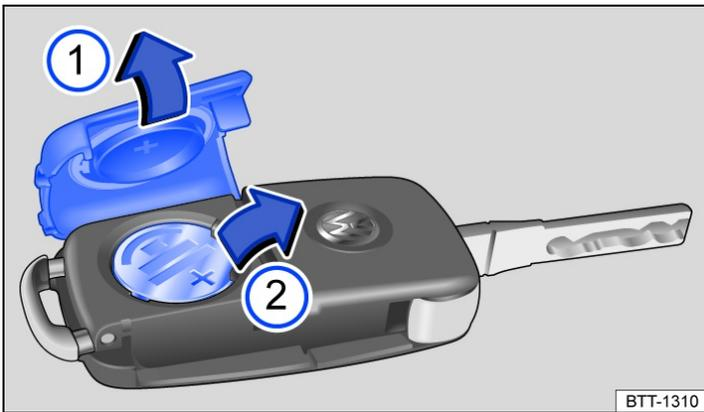

Fig. 1 Vehicle key: replacing the button cell.
Key to Fig. 1:
- Lever off the cover → Fig. 1 ① → ⚠.
- Lever the button cell out of the battery compartment → Fig. 1 ②.